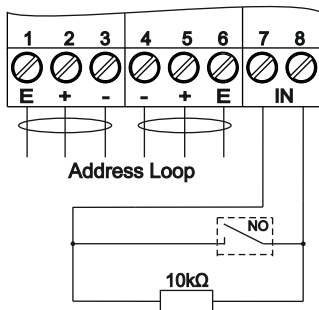

Fig. 3a - Does not check for short circuit of the input
- "Activated input" - input does not check for short circuit (fig.3a)